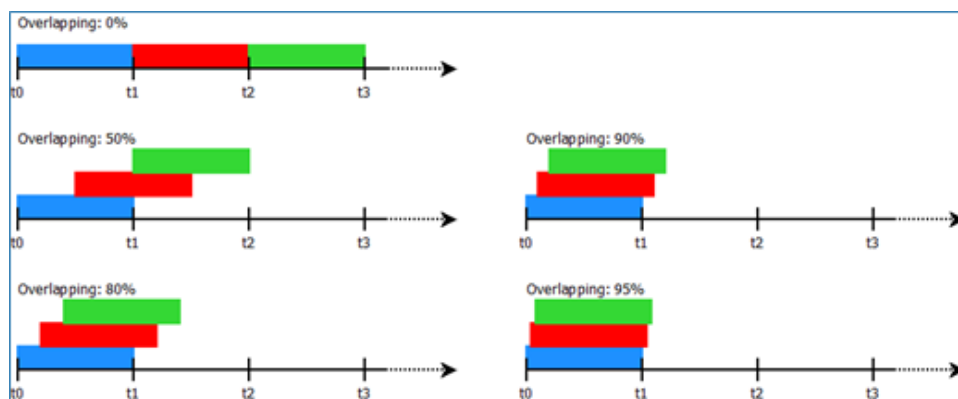

Fig. 7.81: Overlapping mechanism for the statistic calculations
- Overlap – define window overlap; see Fig. 7.81.